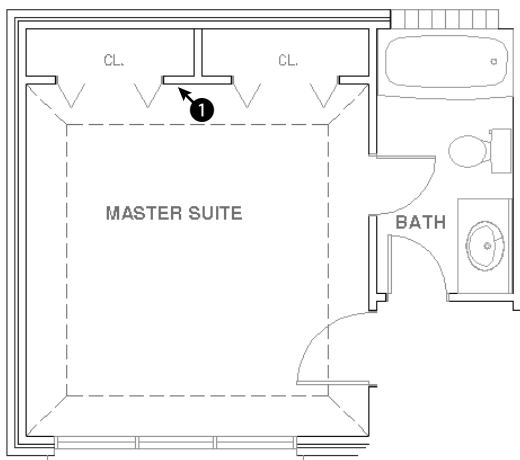

Figure 11-31: The master-bedroom-suite plan.
2. Save the file as `ab11-06.dwg` in your AutoCAD Bible folder. This is a drawing of a master-bedroom-suite plan, as shown in Figure 11-31.
3.  Pick the wall at ❶ in Figure 11-31. Click Match Properties from the Standard toolbar. At the Select destination object(s) or [Settings]: prompt, use a crossing window to select all of the folding closet doors on both sides of the line that you just selected. Press Enter to end object selection. This action matches the properties of the doors to the properties of the wall. (The doors turn from gray to black/white.)